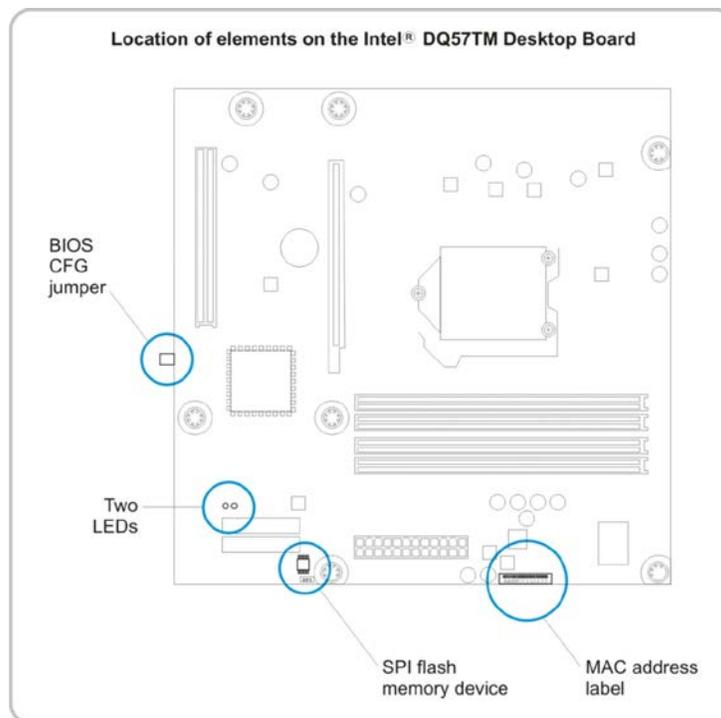

Figure 3-1. Location of BIOS CFG jumper, LEDs, SPI device, and MAC address.
Throughout this procedure, refer to Figure 3-1 for the location of the SPI flash device, the MAC address, the LEDs, and the BIOS CFG jumper.
- Grasp the tab on the BIOS CFG jumper, carefully remove the jumper, and set the jumper aside. For detailed information about removing the BIOS CFG jumper, refer to the Intel® DQ57TM motherboard product guide. Figure 3-1 shows the location of the BIOS CFG jumper.
1. Look on the motherboard and locate the small sticker that lists the MAC address for the board. Figure 3-1 (earlier in this section) shows this location.